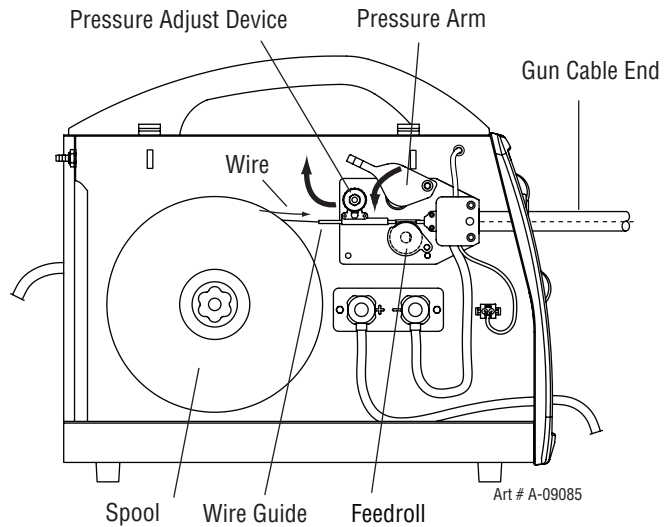

Figure 3-10: Inserting Wire
4. Place the end of the wire into the Inlet Wire Guide, feeding it over the Feedroll. Make certain that the proper groove is being used (Fig. 3-10).
5. Pass the wire into the Gun Liner of the Gun Cable End (Fig. 3-10).
6. Close the Pressure Arm (Fig. 3-10).
7. Close the Pressure Adjust Device. Tighten it to a “snug” condition (Fig. 3-10).